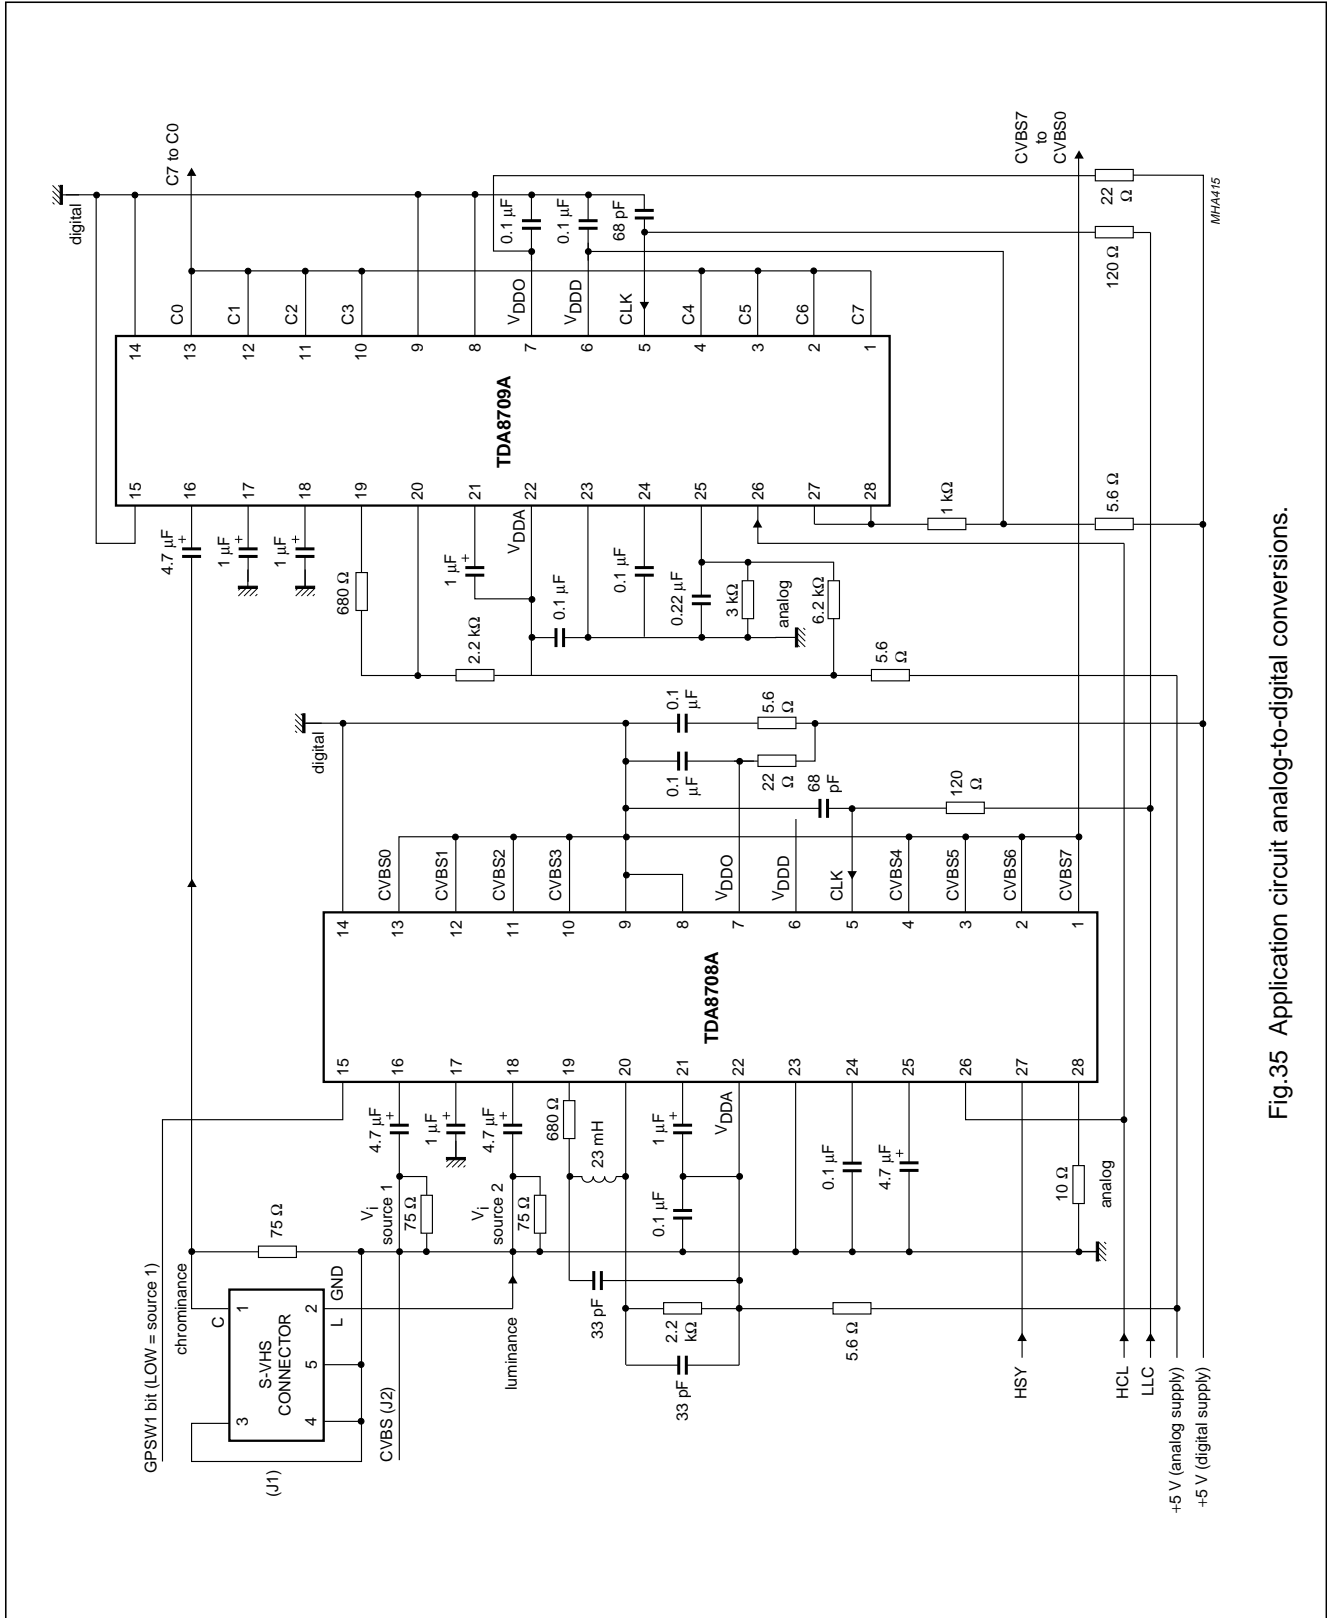

Fig.35 Application circuit analog-to-digital conversions.
Coefficients to set operation for application circuits Figs 35 and 36. Slave address byte is 40H at pin 5 connected to  $V_{SSD}$  (or 42H at pin 5 connected to  $V_{DD}$ ).
- Dependent on application (Figs 35 and 36).